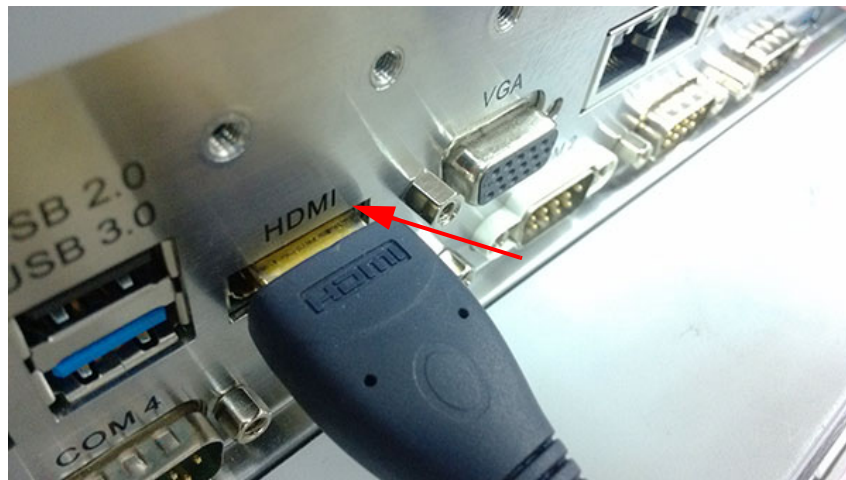

Figure 2.5
2. Please insert the cable by the right side. (See Fig 2.5)